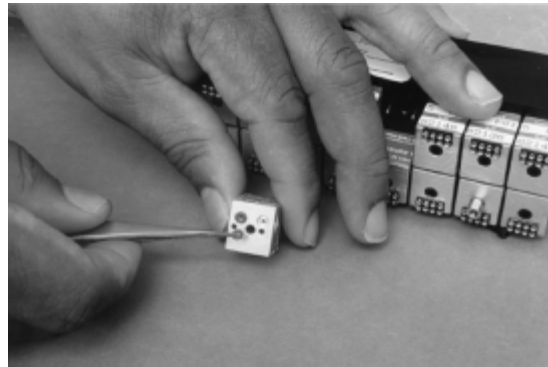

Figure 5.8
- (1) Disassemble the module as described in **Section 5.1.2**. Remove the transducer/cal-valve housing from the top chassis rail.
- (2) Remove the PC-206 Amplifier/Multiplexer board as described in **Section 5.1.3.1**. Lay the circuit board aside on an anti-static surface.
- (3) Remove the retaining screw from the desired DH200 transducer. Lift the transducer straight up to remove it. Make sure that the two (2) O-rings remain with the transducer as it is removed from the adapter plate. Ensure that the adapter plate O-ring sealing surface is clean and free of contaminants. See **Figure 5.8**.